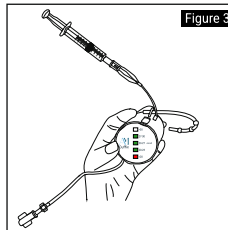

Figure 3
4. Connect a cuff inflation syringe and inject 10cm3 of air to the inflation port [Figure3]. Disconnect the syringe.